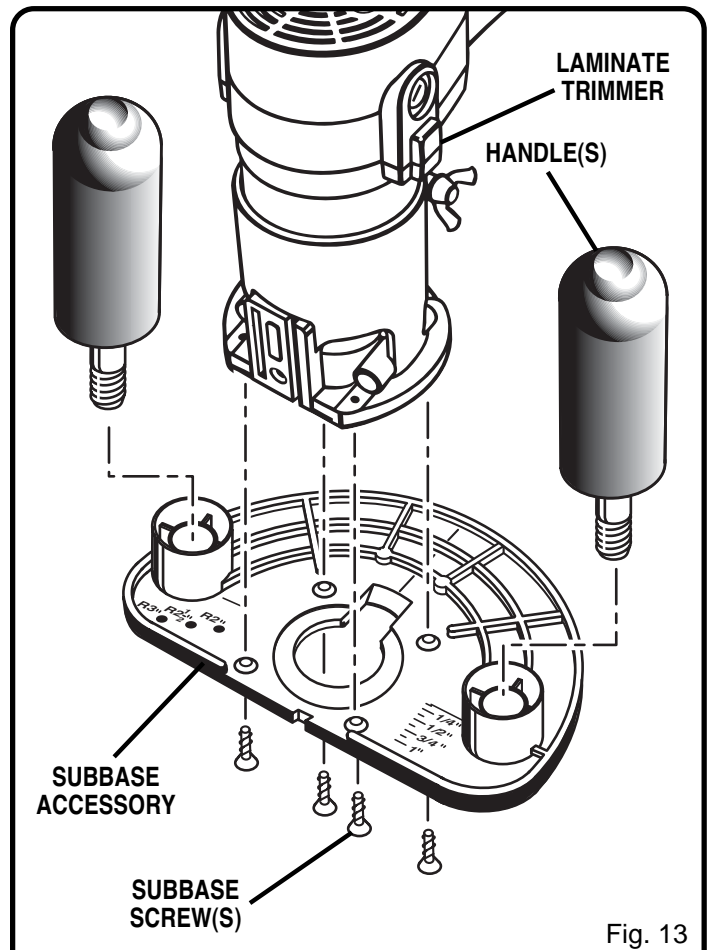

Fig. 13
See Figures 13 and 16.
See Figure 13.
See Figures 13 and 14.
- If you have purchased an optional straight guide, place cutter at desired position on the workpiece and make your cut from left to right as shown by the arrow in figure 13.